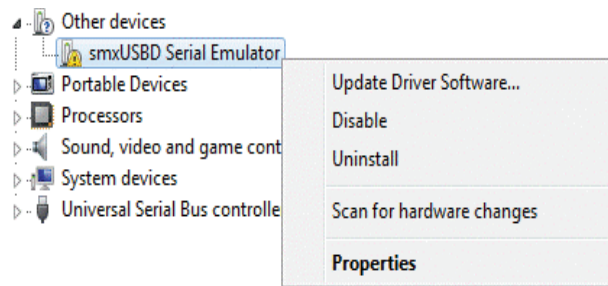

Figure 81 Device Manager Windows 7
3. Under **Other devices**, right click on **smxUSBD Serial Emulator** and select **Update Driver Software** (Figure 81).